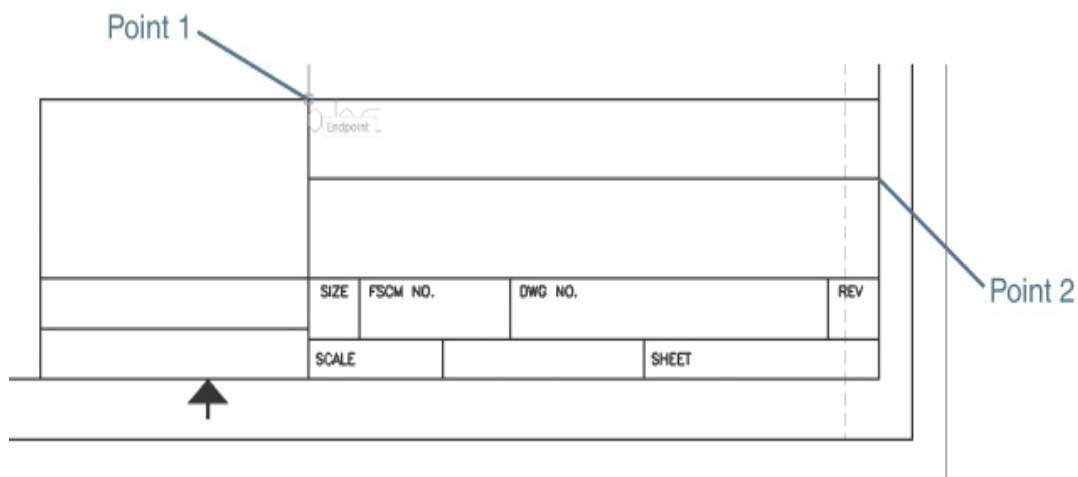

Figure 2-53
- 3 Choose **Zoom Window** from the navigation bar, and zoom up on the lower-right corner of the title block, as shown in Figure 2-53.
- 5 Pick the endpoints at point 1 and point 2 shown in Figure 2-53. The **Text Editor** context tab of the ribbon replaces the **Home** tab of the ribbon at the top of the screen, and a flashing text cursor is displayed at the upper-left corner of the text box. This indicates where the text will appear when you type.